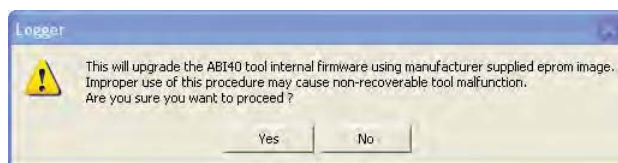

Figure 6-13 Warning Message during firmware upload
2. The following message will appear (Figure 6-13). Click **Yes** to validate your choice.